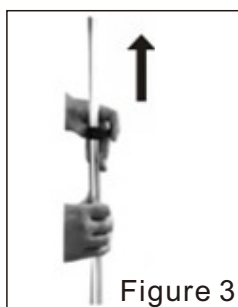
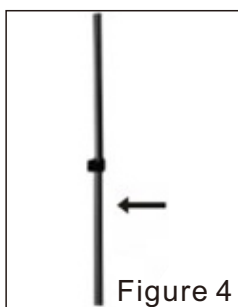

Figure 3
Figure 4
④ Pull open the two locking buttons (as shown in Figure 3) and pull up the extension-type aluminum pole, to pull out the three aluminum pole sections and adjust to an appropriate position, and then press the button (as shown in Figure 4)
⑤ As shown in Figure 4, insert the vapor hose into the vapor outlet of the main body, and tighten the vapor hose fixing knob clockwise.